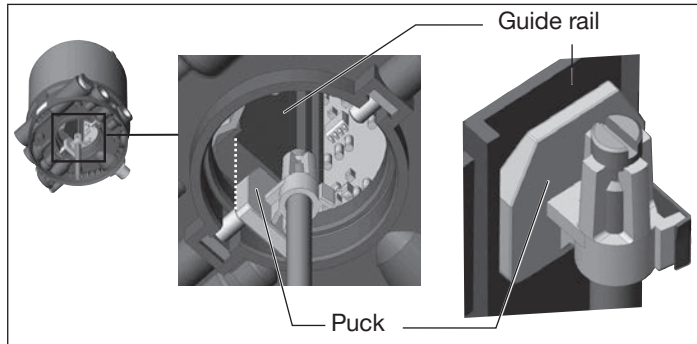

Fig. 9: Aligning the puck
- Push the control head onto the actuator. The puck must be aligned in such a way that it is inserted into the guide rail of the control head (see “Fig. 9”).